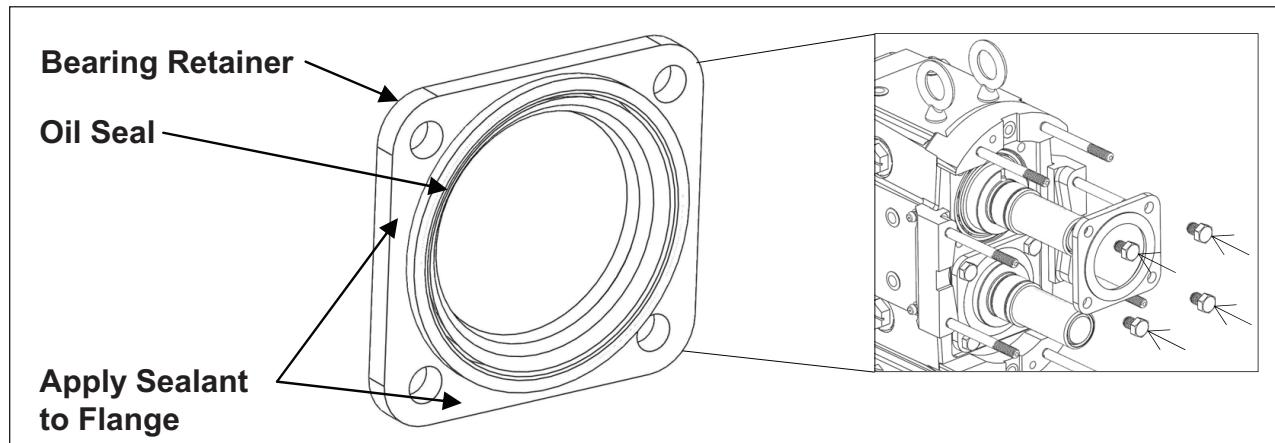

Figure 51. Bearing Retainer Installation
6. Once the correct backface clearance is achieved, fill all bearings with grease through the fittings on the mounting pads until grease is noticeable around the bearing assemblies. The shafts should be rotated during this initial greasing to distribute the grease evenly. Apply a light film of lubricant to the inside and outside diameters of the oil seals and install them into the bearing retainers. Apply silicone sealant to the outside flanges on the bearing retainer (*Figure 51*). Once the silicone sealant is applied, install the bearing retainers onto the gear case.